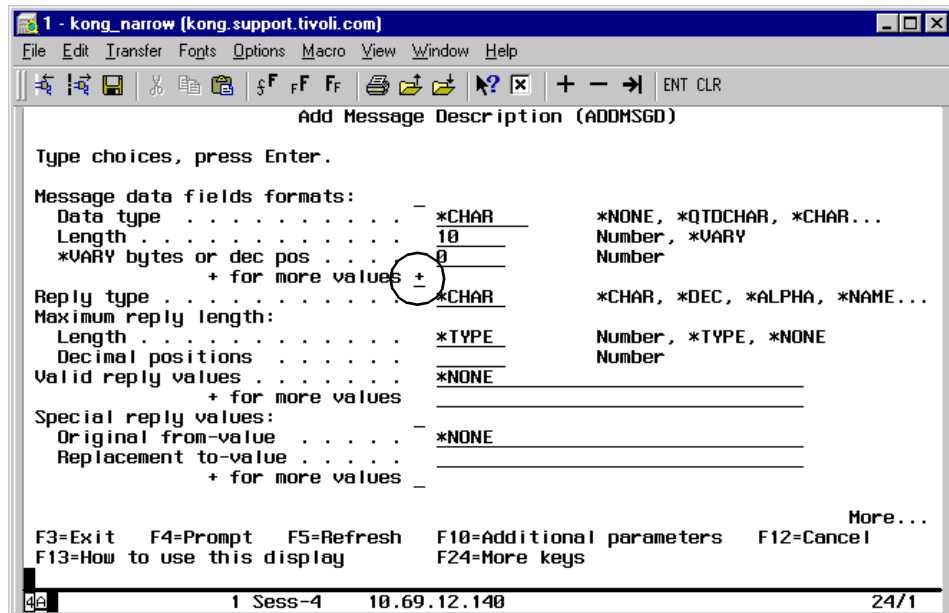

Figure 222. Filling out the Add Message Description panel
5. Page down, and complete the field data formats as shown in Figure 222 on page 374.